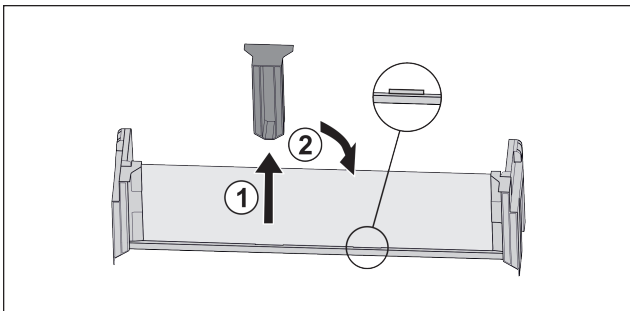

Fig. 126
- ▶ Pull off the middle holder Fig. 126 (1).
- ▶ Insert the middle holder in the second position Fig. 126 (2).